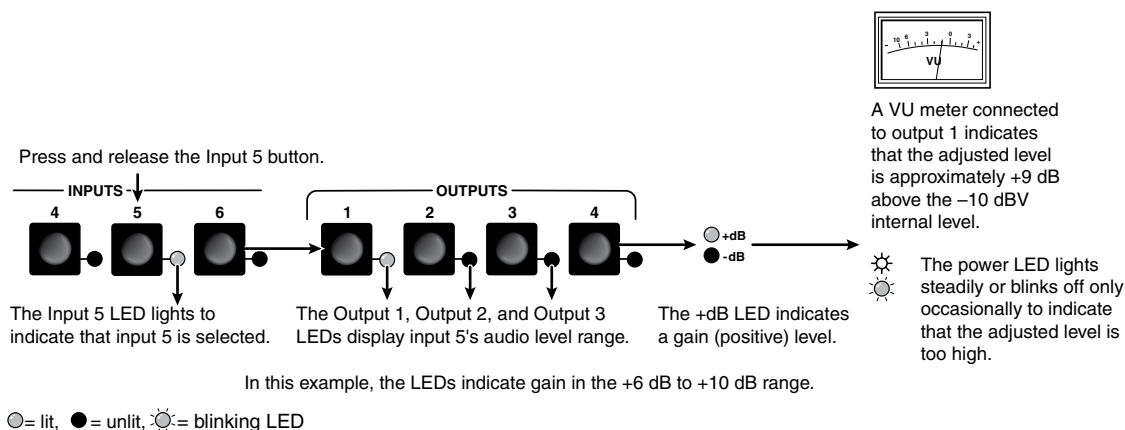

Figure 3-32 — Select an input
- Press and release the Input 5 button (figure 3-32).